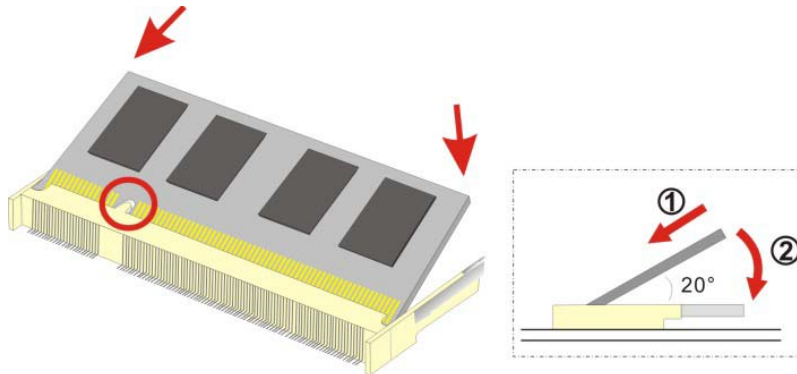

Figure 3-6: SO-DIMM Installation
Step 3: Align the SO-DIMM with the socket. The SO-DIMM must be oriented in such a way that the notch in the middle of the SO-DIMM must be aligned with the plastic bridge in the socket (**Figure 3-6**).
Step 4: Push the SO-DIMM into the socket at an angle (**Figure 3-6**).
Step 5: Gently pull the arms of the SO-DIMM socket out and push the rear of the SO-DIMM down (**Figure 3-6**).